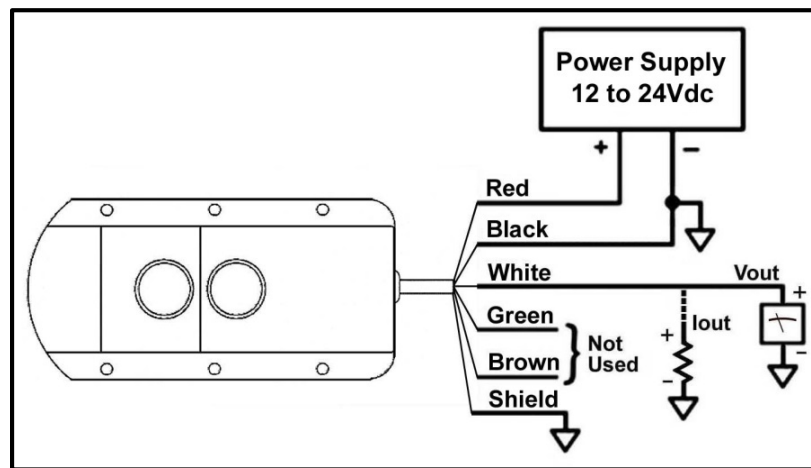
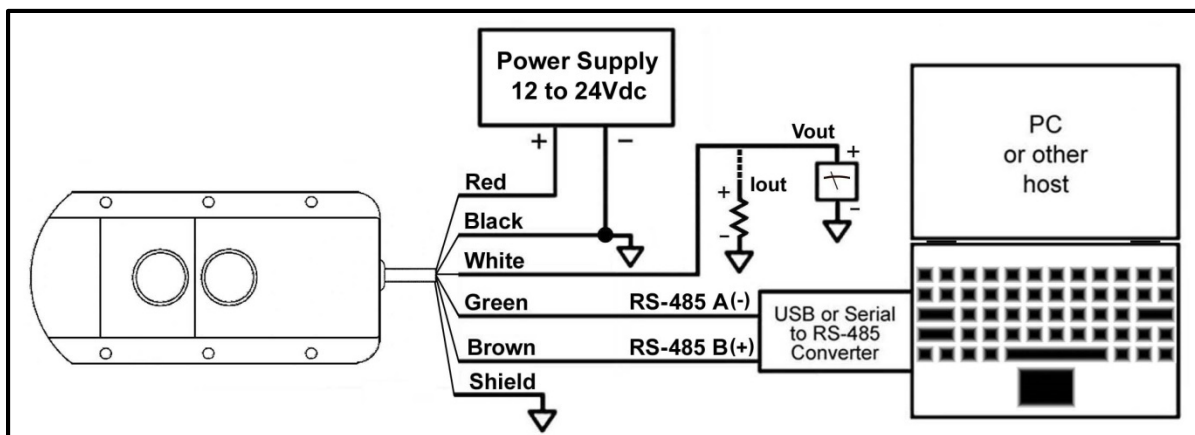

Figure 2
Figure 3
- Connect the sensor's leads as shown in Figure 2. Sensors are programmed for factory default setting. Applications may need setting adjustments which will require connection to the RS485 port (green and brown wires) and the Omega Software (see Figure 3). Once configured, the RS485 wires can be removed.
- Connect the sensor's power leads as shown in Figure 3. If wiring the sensor's Vout or Iout lead, connect it as well.
- Wire the sensor's RS485 green and brown wires as shown in Figure 3.